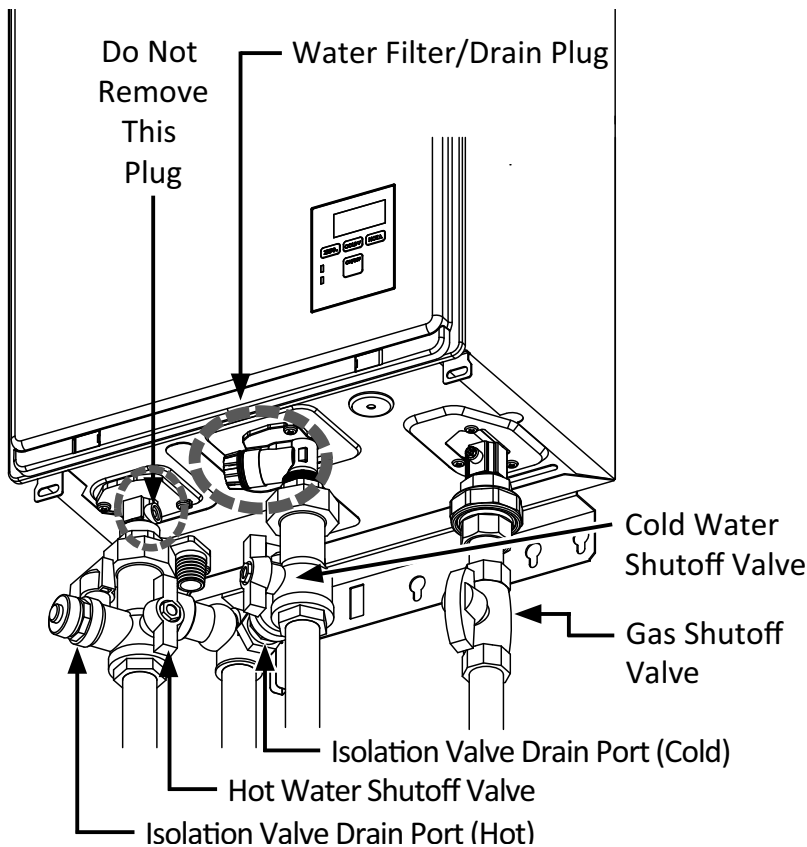

Figure 11. Drain Plugs.
4. Close the cold water inlet shutoff valve (Figure 11).
- 6.1 Place a bucket or pan underneath each isolation valve drain port. (There are two: one on the COLD line and one on the HOT line.) See Figure 11.
7. Place a bucket or pan under the water filter drain plug (Figure 11).